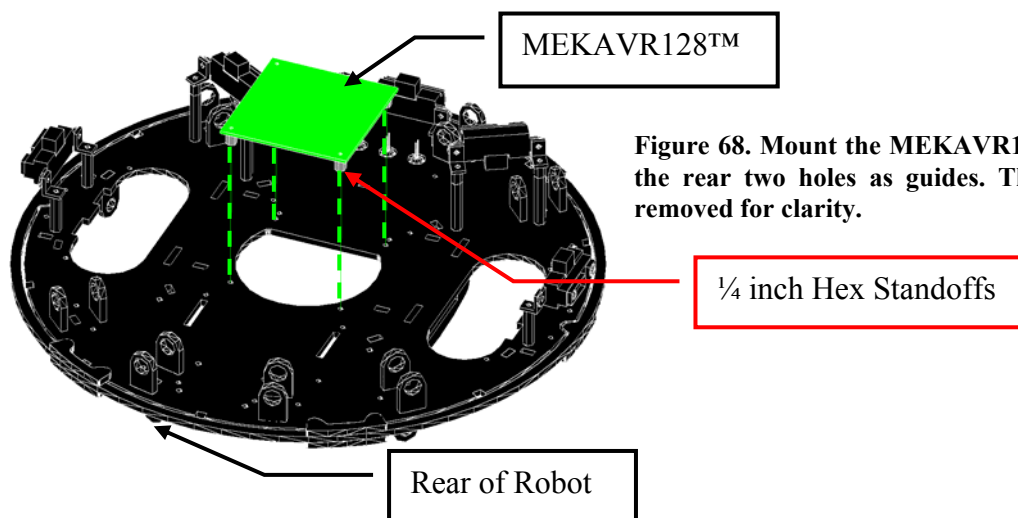

Figure 68. Mount the MEKAVR128™ as shown. Use the rear two holes as guides. The bridge has been removed for clarity.
2. (Figure 68) Pass the ½ inch screws through the top of the 4 corner holes of the MEKAVR128™ and screw them into the ¼ inch standoffs placed underneath the board.
3. (Figure 66 and Figure 68) Orient the MEKAVR128™, face up, with the top edge of the board (edge 1-2) toward the front of the robot and insert the screw projections into the 4 holes on the top plate provided for this purpose.